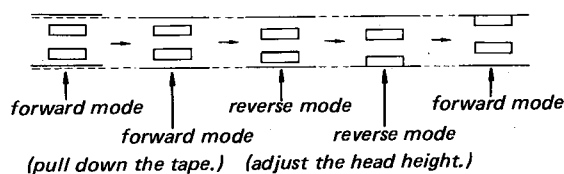

Fig. 26.
- (6) If the upper side of the tape comes above that of the core as shown in Fig. 26. perform the following steps.